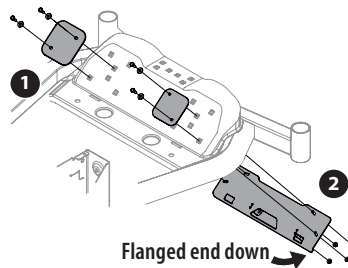

Figure 2
- Place the two top plates (789-03137) on top of tractor foot pan as shown and secure with four hex screws (710-3015) and four flat washers (736-0173) from hardware pack 689-02139. See (1) in Figure 2.
- Bring larger plate (689-02121) up from bottom of foot pan, aligning holes with hex screws and flat washers placed in Step 1. Secure assembly with four flange lock nuts (712-04064) from hardware pack 689-02139 and tighten until flush. See (2) in Figure 2.